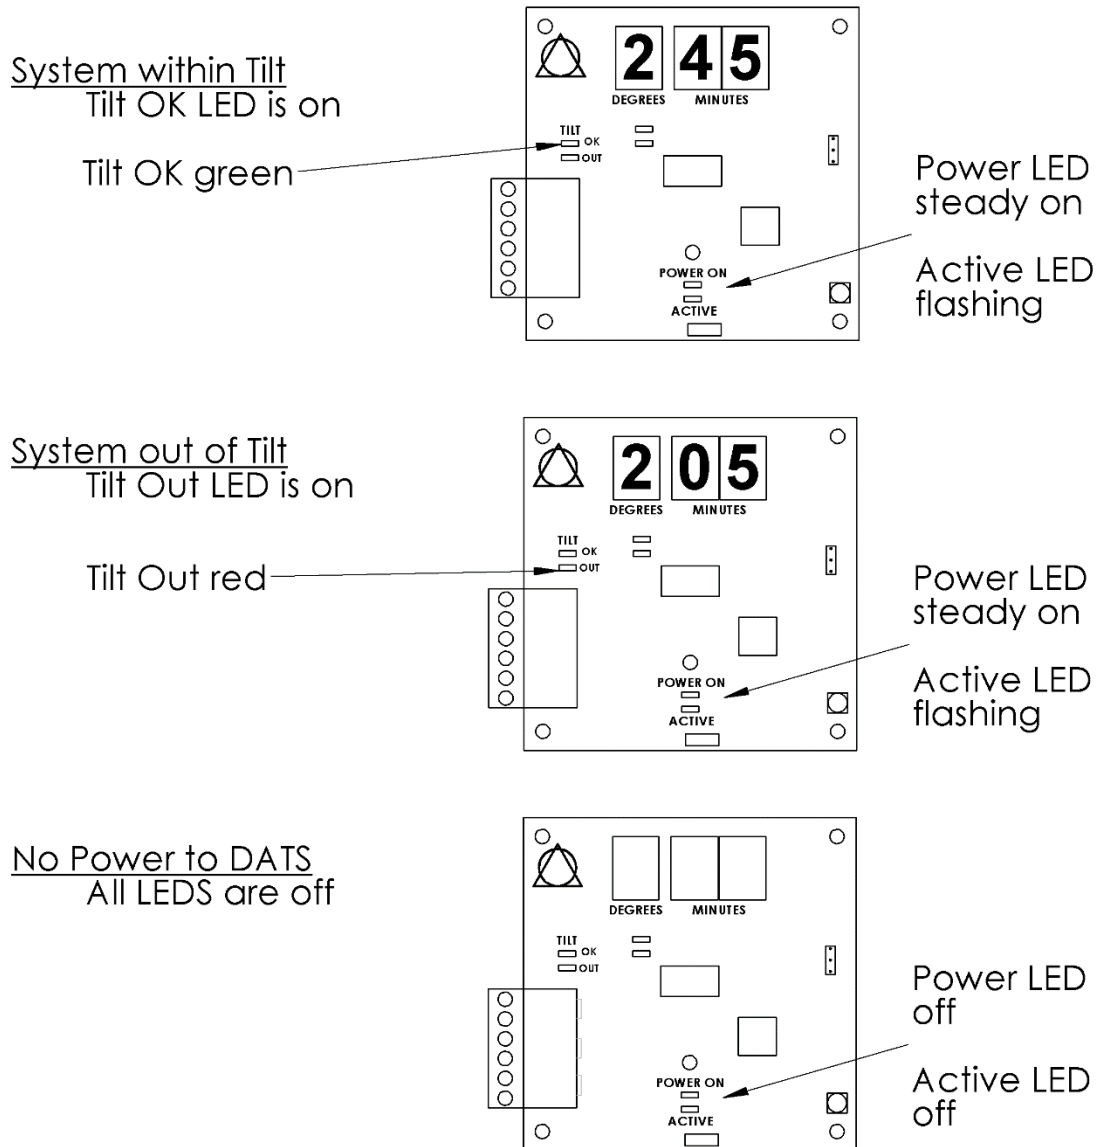

Figure 26: Digital Aiming Tilt Sensor LED Indicators
- Look at each Digital Aiming Tilt Sensor. (refer to figure 26)